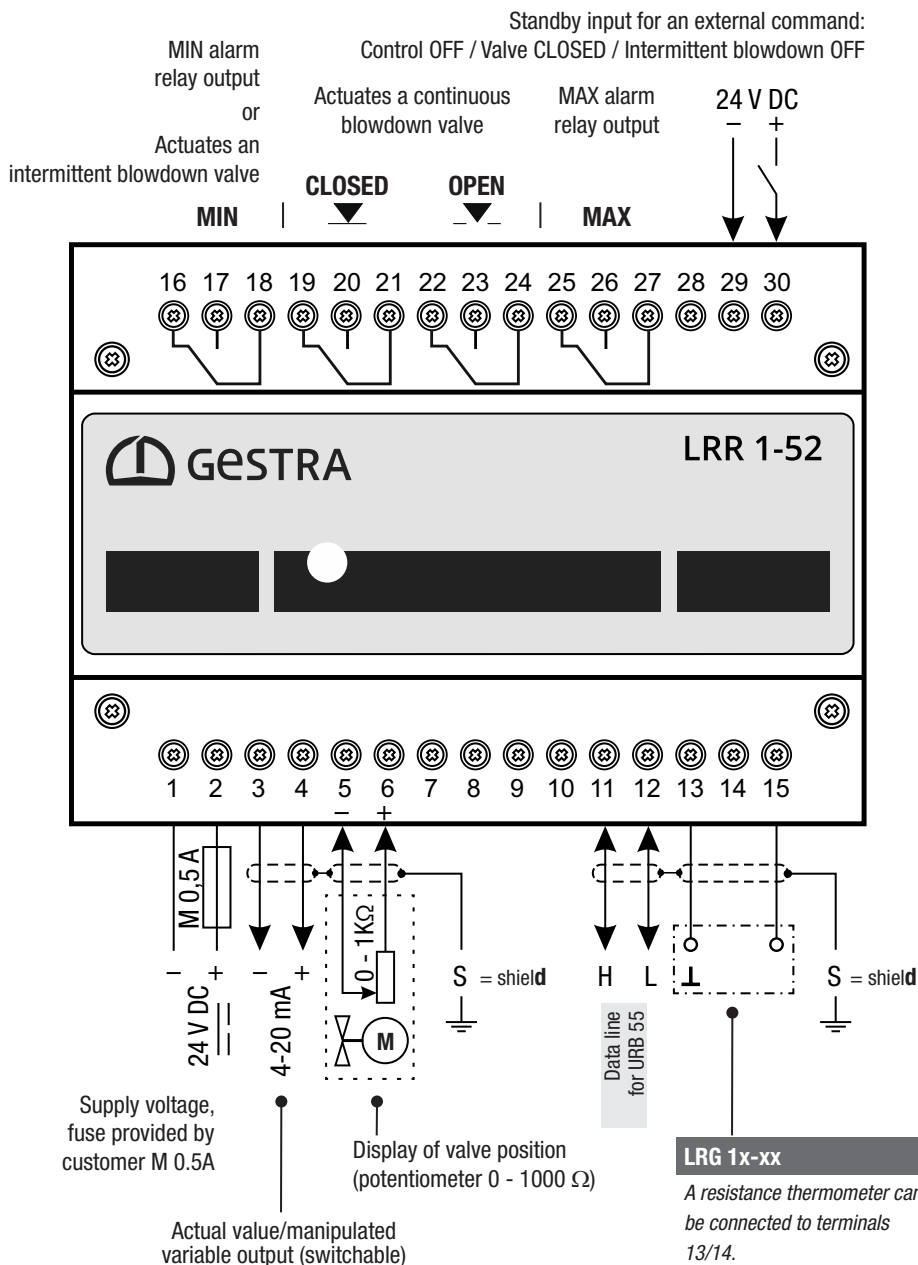
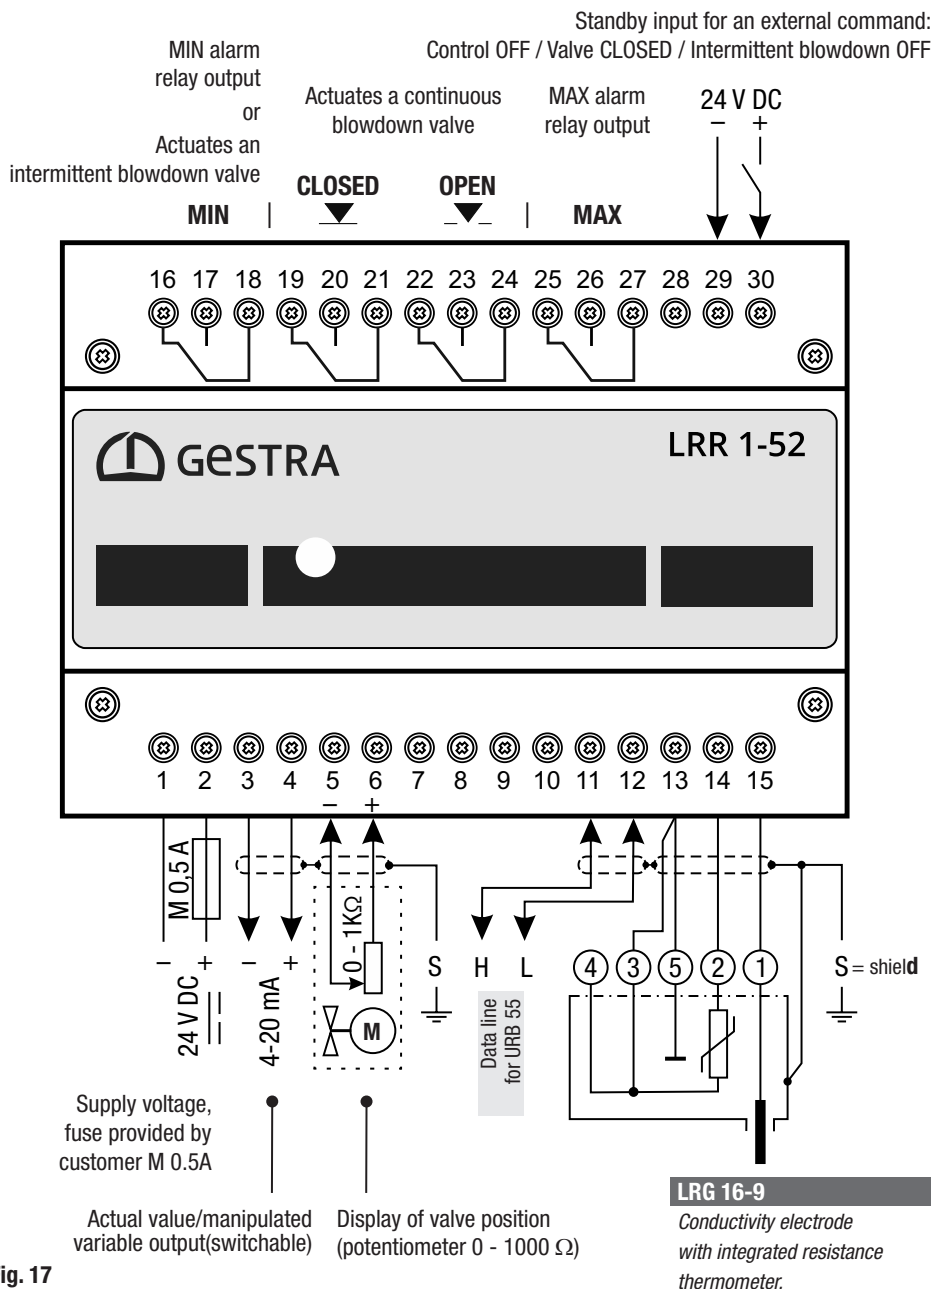
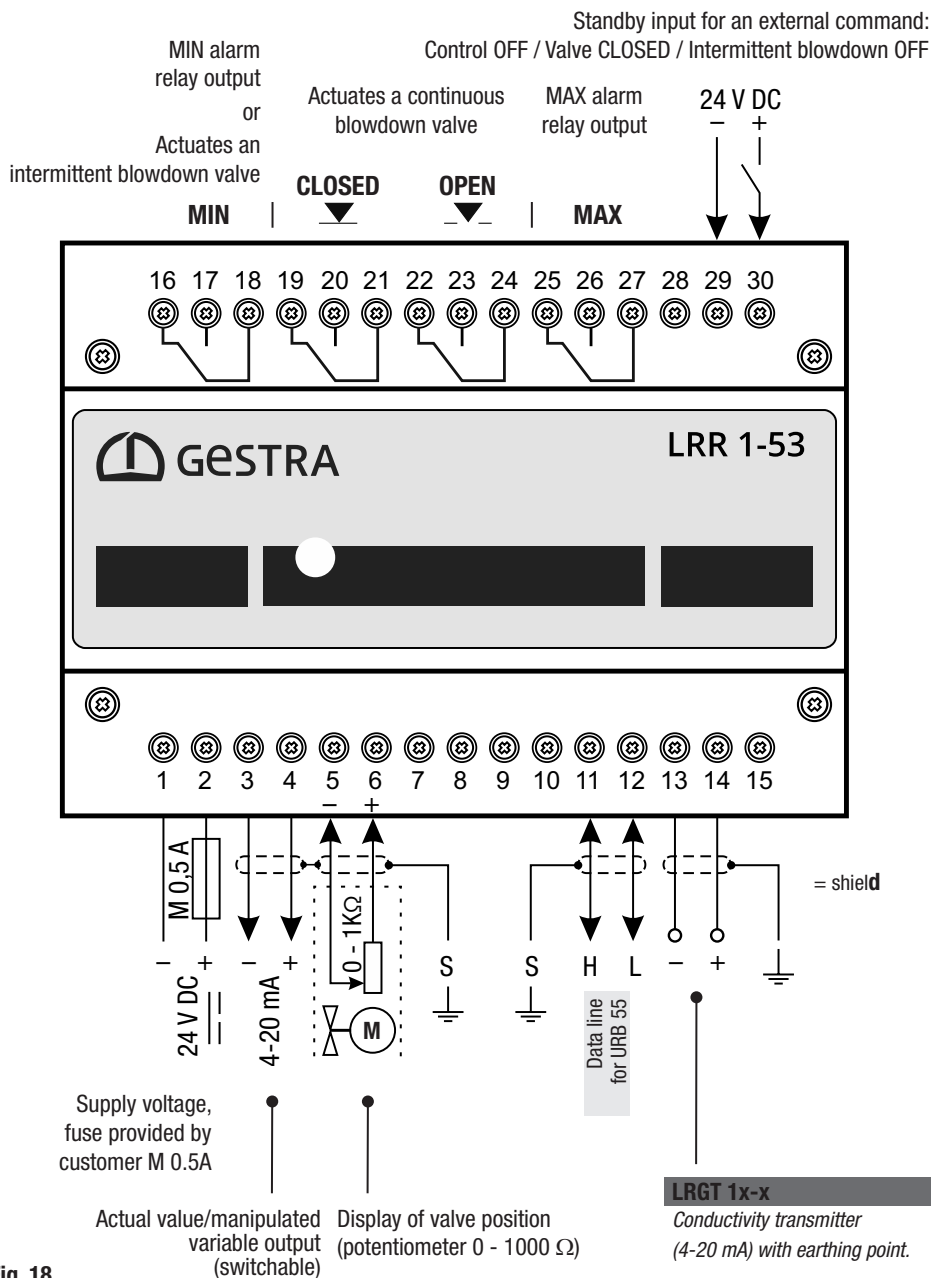

Fig. 16
Fig. 17
Fig. 18
- Connect the conductivity controller and all associated components as shown in wiring diagrams **Fig. 16** to **Fig. 18** in this Manual.
- Connect the outputs as shown in wiring diagrams **Fig. 16** to **Fig. 18**.
- Connect the conductivity electrode as shown in wiring diagrams **Fig. 16** to **Fig. 17**.
- To connect the LRR 1-52 conductivity controller, please remove the plug and wire the terminal strip as shown in wiring diagrams **Fig. 16** to **Fig. 17**.
- Connect the conductivity transmitter as shown in the wiring diagram in **Fig. 18 an**.
A pre-wired control cable with socket is supplied for connecting the equipment. For terminal assignment, see wiring diagrams **Fig. 16** to **Fig. 18**.
- Wire the terminal strip as shown in wiring diagrams **Fig. 16** to **Fig. 18**.